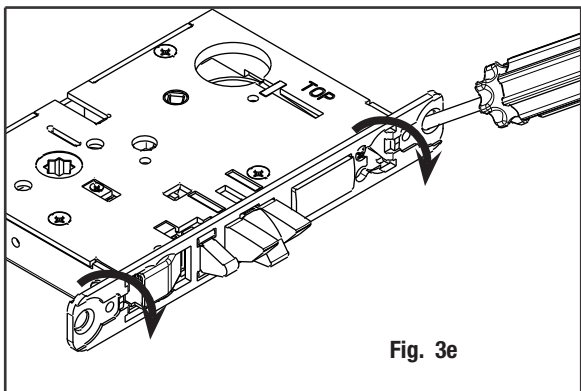

Fig. 3e
Step 5) Rotate lock front to match bevel of door as shown (Fig. 3e)